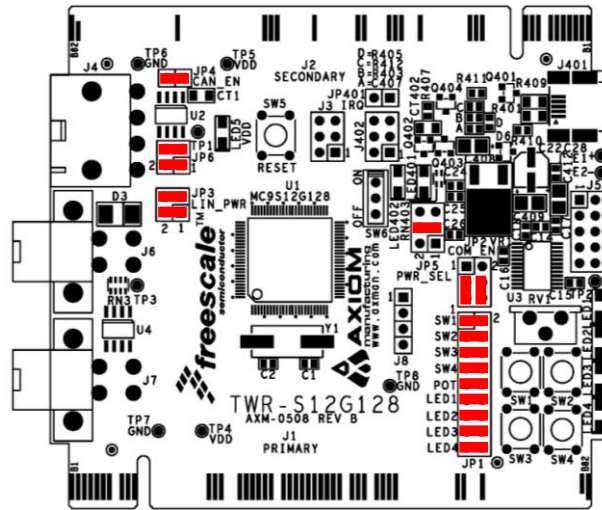

Figure 1: TWR-S12G128 Default Option Settings
The TWR-S12G128 features the MC9S12G128 microprocessor(MCU), a high-performance, low-cost, low pin-count 16-bit MCU. The MC9S12G Family is intended to bridge the gap between high-end 8-bit MCU's and high-performance 16-bit MCU's. The MC9S12G Family is targeted to generic automotive applications requiring CAN or LIN/J2602 communications. This guide will show how to quickly connect the board to a host PC, and execute a demonstration application preloaded into FLASH memory. Default jumper positions for the TWR-S12G128 are shown in Figure 1 below.
1. Verify the option jumpers are set in default positions. Refer to Figure 1 above.
- Ensure the option jumpers are set to default positions. Refer to Figure 1 above. Specifically, ensure the PWR_SEL option jumper is set correctly.
- If keystrokes are not echoed in the terminal window, ensure the terminal program is correctly configured. Also, ensure the COM_SEL jumpers are set properly, refer to Figure 1 above.